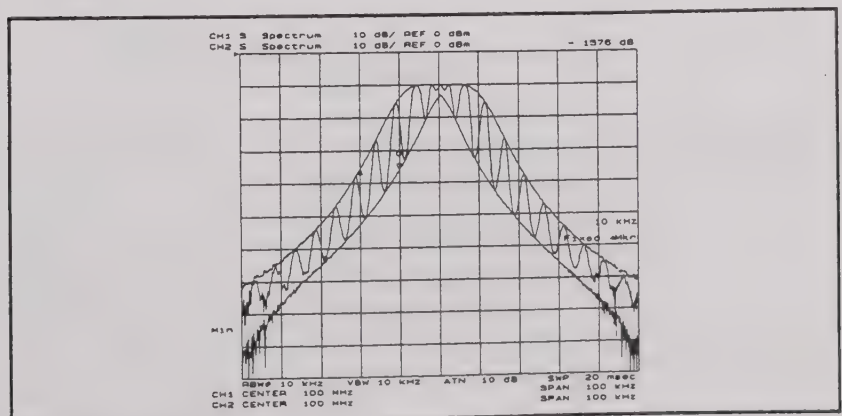

Figure 3-18. Superimposing Spectrum and Envelopes
12. Press **MORE SPLIT DISP ON off to on OFF**. The analyzer superimposes the spectrum on the envelopes as shown in Figure 3-18.